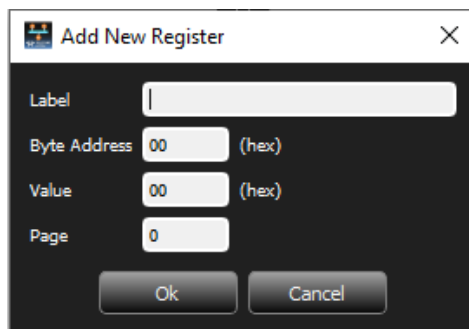

Figure 4.46: Add New Register Dialog Box
3. Click **Add** . The Add New Register dialog box appears (Figure 4.46).